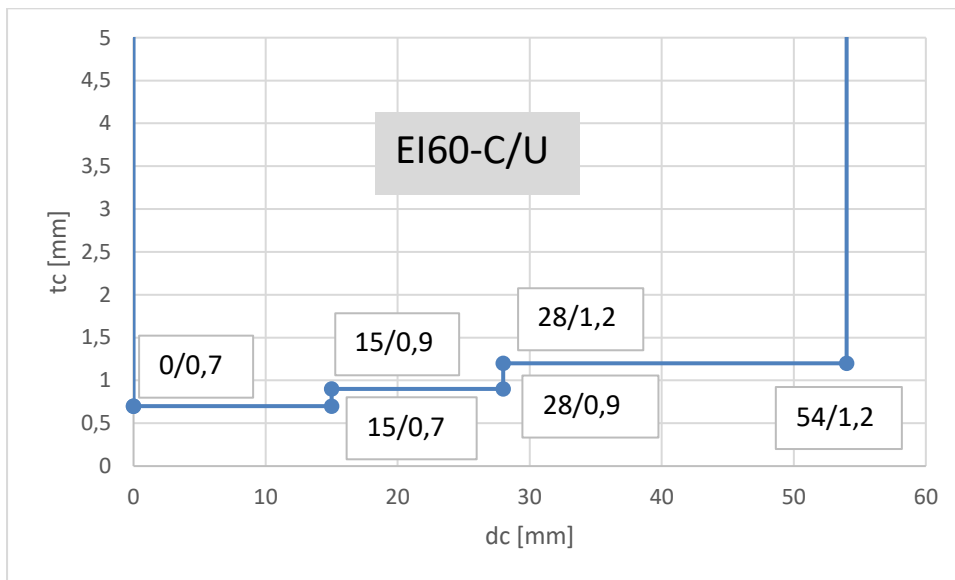

Figure 58: Classification range for phenolic-insulated metal pipes with protect insulation
Classification given in Figure 58 is valid for:
- Pipe diameter and minimum pipe wall thickness: refer to Figure 58